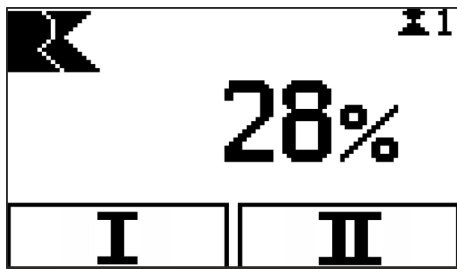

Fig. 40: 'Memory positions' mode
- Memory positions (standard view, Fig. 40)
⇒ The display screen switches to 'Memory positions' mode (Fig. 40).